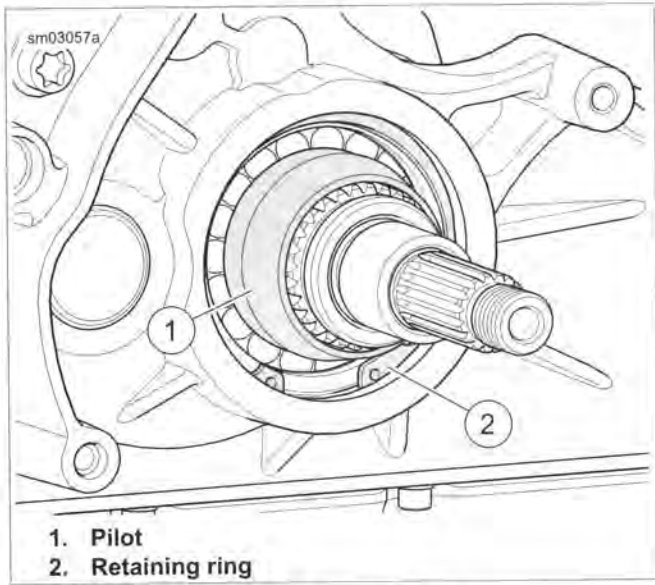

Figure 6-48. Install Pilot
4. See Figure 6-48. Install **new** retaining ring (2).
1. See Figure 6-48. Install PILOT (Part No. HD-47856-2) over end of main drive gear bearing inner race.